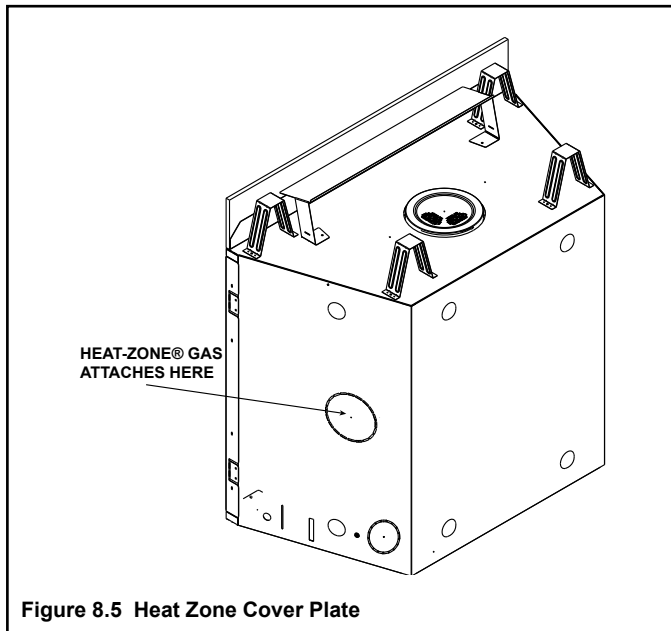

Figure 8.5 Heat Zone Cover Plate
- Remove the knockout from the fireplace and discard it (see Figure 8.5).